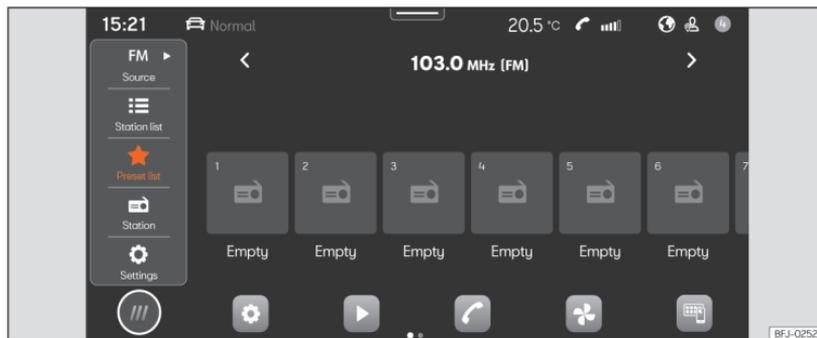

Fig. 138 Schematic diagram: Radio view.
- Press **HOME** > >>> **Fig. 138**.